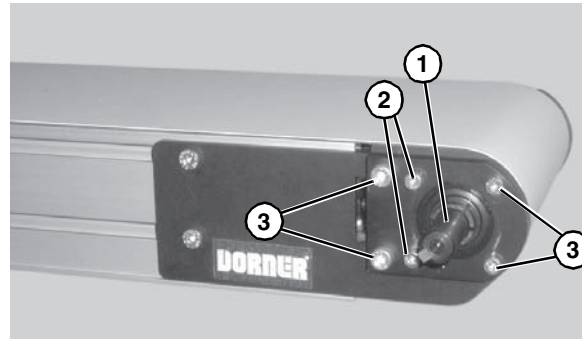

Figure 4
2. Locate drive output shaft (**Figure 4, item 1**). Remove two (2) M8 screws (**Figure 4, item 2**) and four (4) M6 screws (**Figure 4, item 3**) and discard.